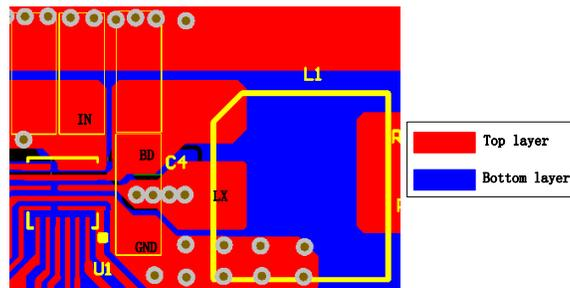

Figure 2. C_{BD} Layout Suggestion
3. Place C_{BD} close to the BD and GND pins. The loop area formed by C_{BD} and GND must be minimized. Refer to Figure 2 below for the recommended C_{BD} layout design.